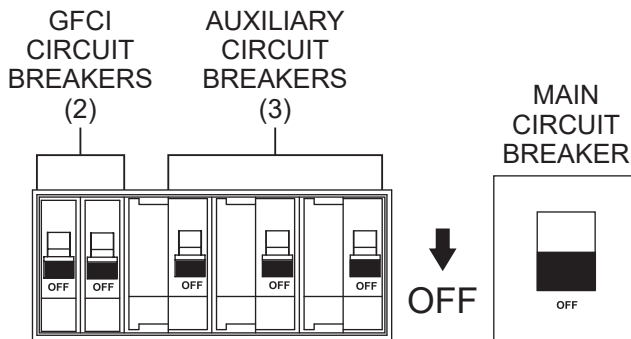

Figure 46. Main, Auxiliary, And GFCI Circuit Breakers (OFF)
1. Place the **main, auxiliary, and GFCI** circuit breakers (Figure 46) in the **OFF** position prior to starting the engine.